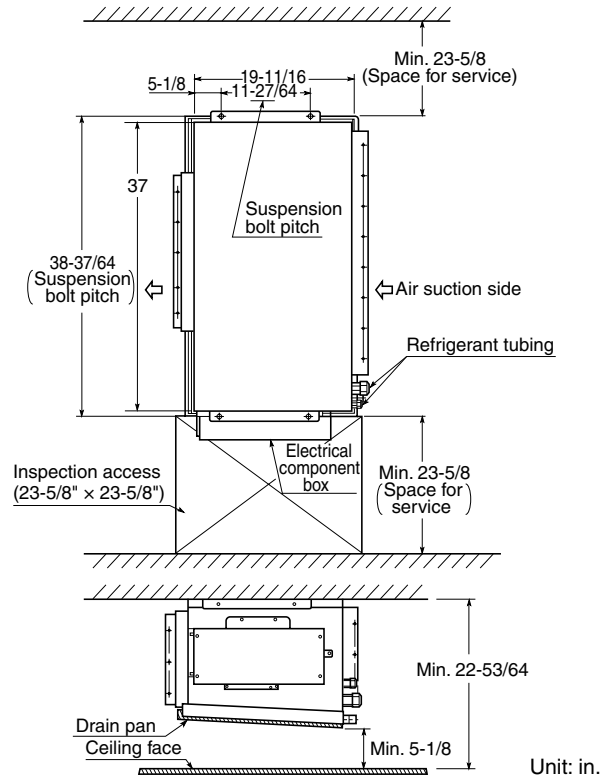

Fig. 3-100
- The minimum space for installation and service is shown in Fig. 3-100.
- (1) When placing the unit inside the ceiling, determine the pitch of the suspension bolts referring to the dimensional data given previously. (Figs. 3-100 and 3-101)